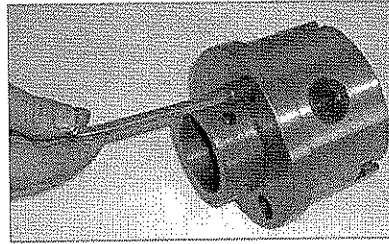

Fig. 27
- 7.11.2. With an inner-hexagon L-key, fasten the flange on to the spindle chuck tightly, as shown in Fig. 27.